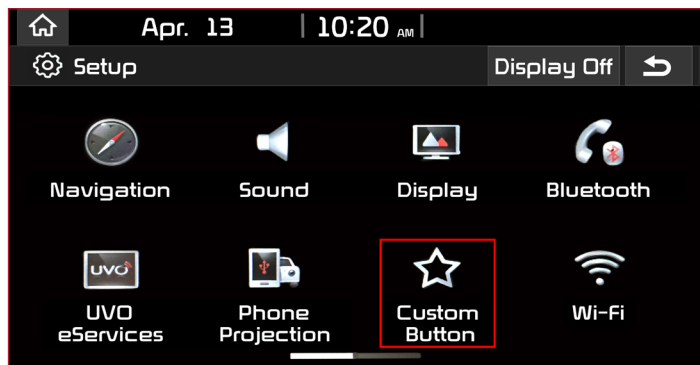

Fig. 2. Custom Button
2. Press the Custom button icon (Fig.2)